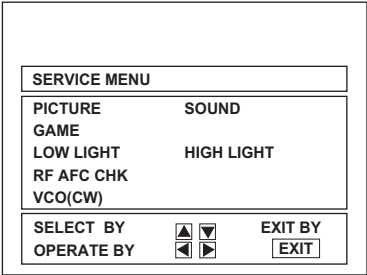

Fig.1
- (1) Unplug the power plug.
- (2) Remove the 5 screws [A], and 2 screws [B] as shown in Fig.1.
- (3) Withdraw the REAR COVER toward you..
- (1) Press the [SLEEP TIMER] key, and while the indication of “SLEEP TIMER 0 MIN” is being displayed, press [DISPLAY] key and [VIDEO STATUS] key on the remote control unit simultaneously (Fig.1).
- (2) The SERVICE MENU screen of Fig.1 will be displayed.